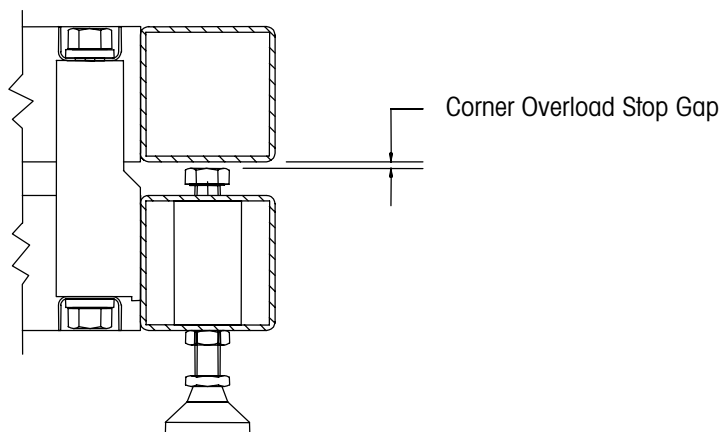

Figure 4-1: Corner Overload Stop Gap
- Check the corner overload stop gaps with a feeler gauge after performing any scale maintenance. Adjust the gap between the platform and the overload screw to the setting indicated in Table 4-1. See Figure 4-1 for corner overload stop locations.